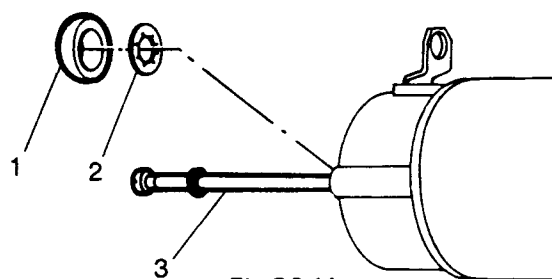

Fig O6.11
- (1) Refer to Fig O6.11. Remove the end cap (1) to gain access to the retaining ring (2).
- (2) Using an engineer's chisel cut through a number of the retaining ring claws until the grip on the armature shaft is sufficiently relieved to allow the ring to be removed. Remove the ring.
- (3) Remove the two through bolts (3).